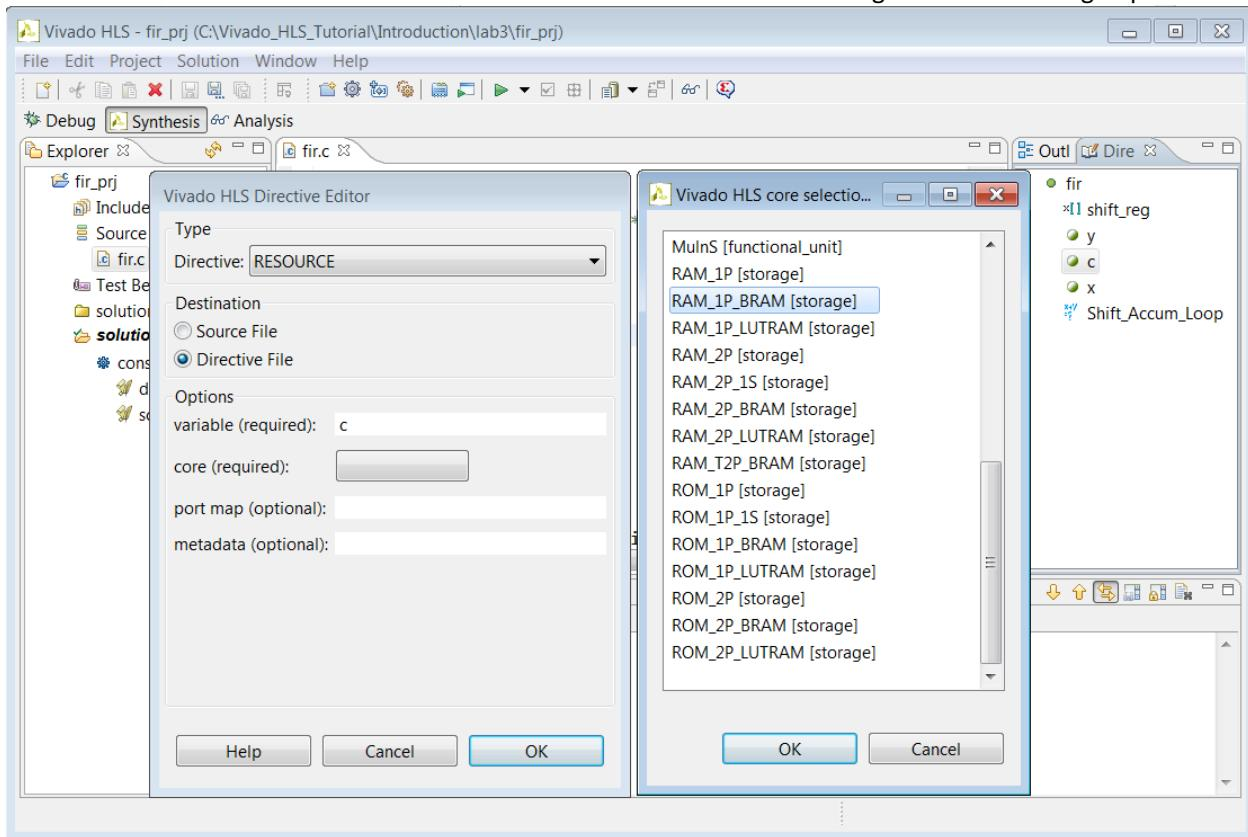

Figure 23: Adding a Resource Directive
- c. Select **RAM_1P_BRAM** as shown in Figure 23.